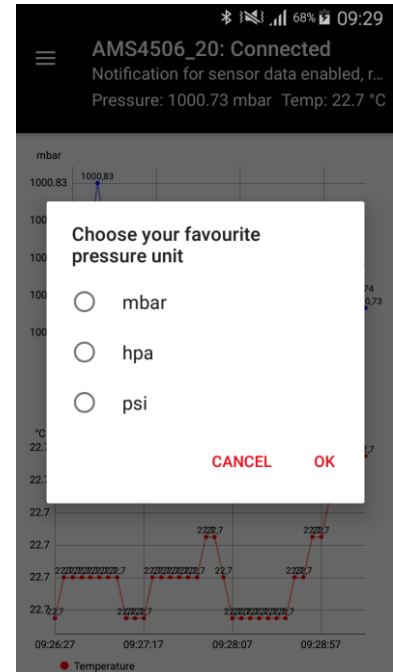

Figure 9: Data Page after clicking on „Change Unit”
- Change Unit:** In the dialog box, you can select the preferred unit to appear at the top of the display. There are three choices: mbar, psi and hpa. Preconfigured is mbar (Fig. 9).